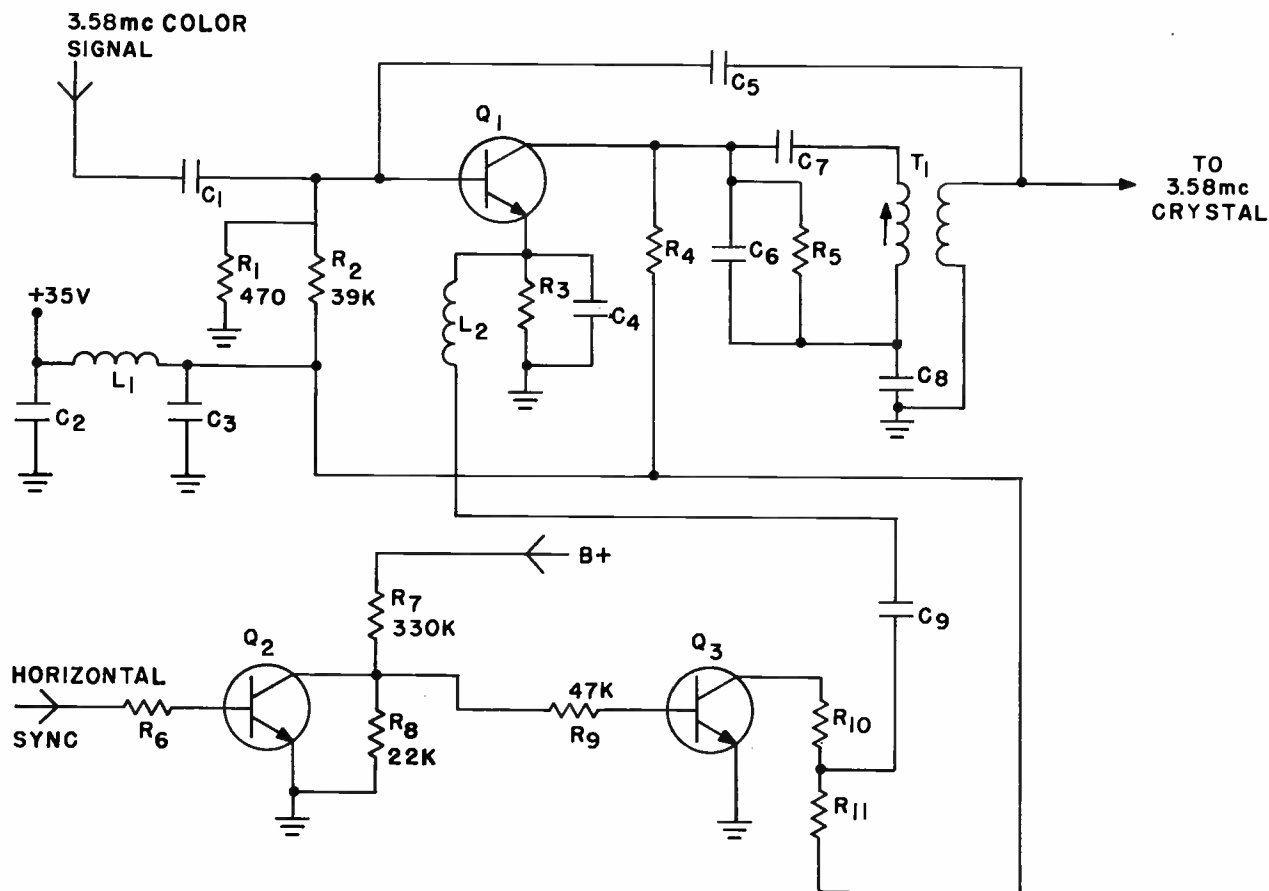
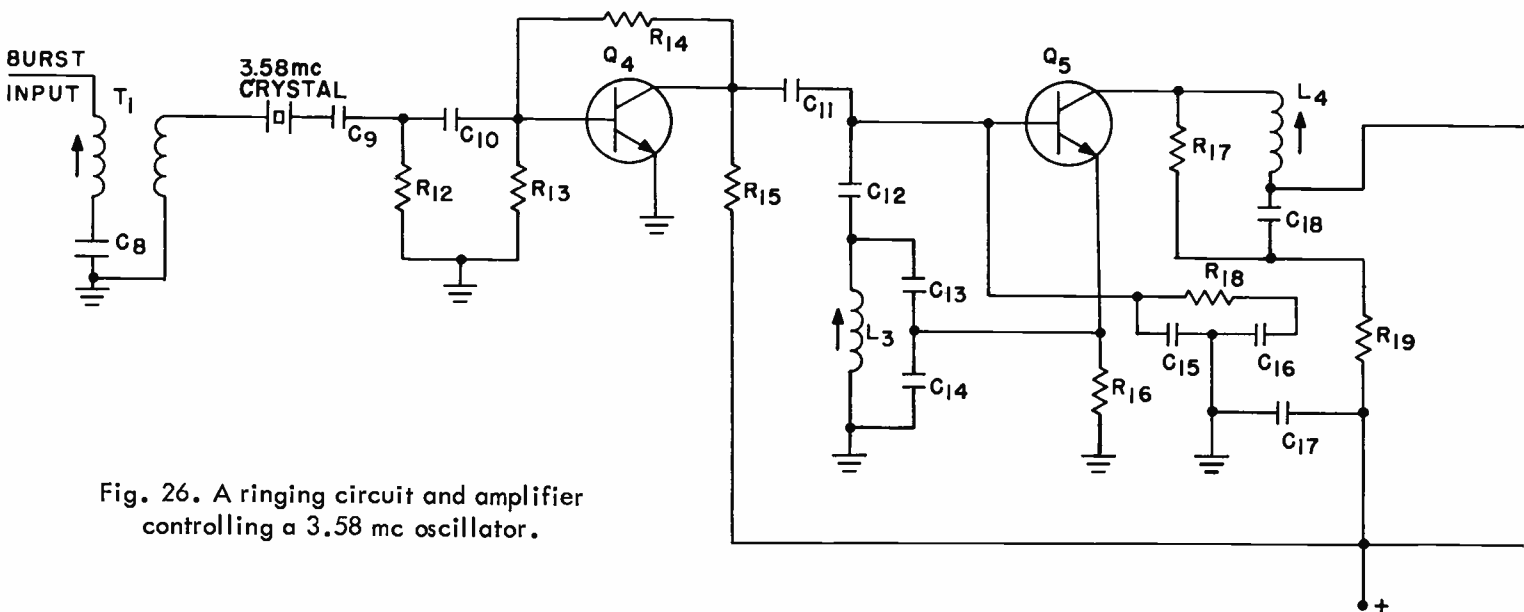

Fig. 20. A transistor burst amplifier and color burst gate.
Fig. 26. A ringing circuit and amplifier controlling a 3.58 mc oscillator.
A transistor burst amplifier and color burst gate is shown in Fig. 20. This circuit is quite interesting. At first, it might look somewhat complicated, but it
- (u) At what dc potential is the base of Q_1 in the circuit shown in Fig. 20 operated?
- (v) In the circuit shown in Fig. 20, is Q_2 normally conducting?
- (w) In the circuit shown in Fig. 20, is the transistor, Q_3 , normally conducting?
A rather interesting transistor color oscillator circuit is shown in Fig. 26. This circuit is used with the burst amplifier and burst gate shown in Fig. 20. You'll notice that in Fig. 20 the output from the burst gate is fed through T_1 to the 3.58-mc crystal. In Fig. 26, T_1 is the same transformer and C_8 the same capacitor as shown in Fig. 20. From T_1 the burst sync signal is fed to the 3.58-mc crystal which is shock excited into oscillation. The oscillation is fed through C_9 and C_{10} to Q_4 . Q_4 is an amplifier which amplifies the signal from the 3.58-mc crystal.